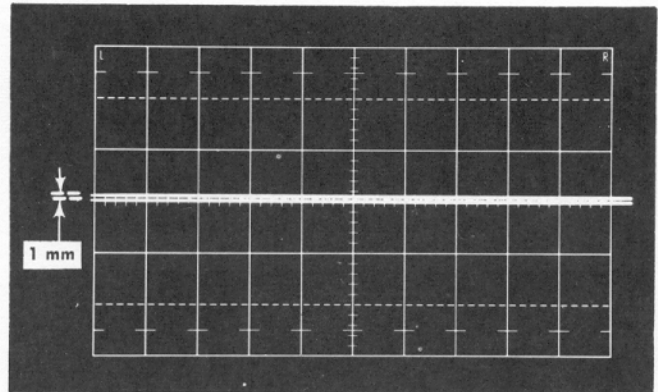

Fig. 7-18. CRT display showing maximum allowable amplitude when checking added accuracy in step 11. Sweep rate: 0.1 ms/cm free running.
e. CHECK—CRT free-running display for a null indication within an amplitude of 1 mm (see Fig. 7-18). (Accuracy = $\pm 1\% \times 100 \text{ mV} = \pm 1 \text{ mV}$ or $\pm 1 \text{ mm}$.)